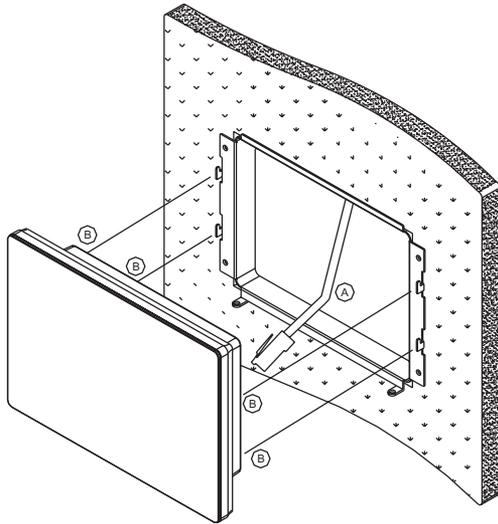

Figure 4
- a. Insert the 8-position modular cable (marked "A" in Figure 4) into the RJ-45 connector (LAN/POE) on the touchscreen (marked "A" in Figure 5).
- b. Align the tabs on the mounting bracket (marked "B" in Figure 4) with the slots on the touchscreen (marked "B" in Figure 5). Attach the touchscreen to the mounting bracket by inserting the tabs on the bracket into the mating slots on the touchscreen and then gently pushing downward to lock into place.